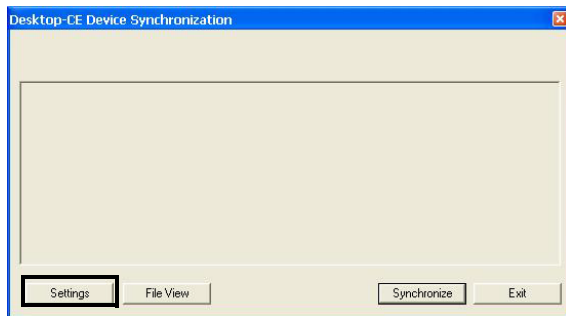
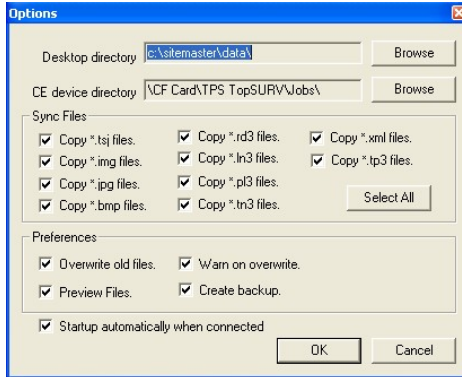
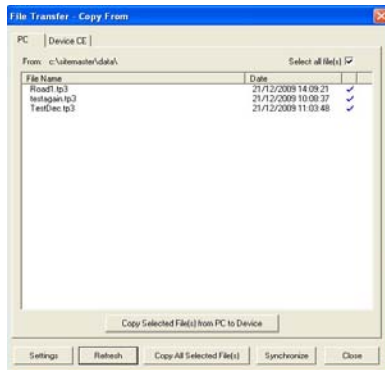

Figure 5-35. Desktop Device Synchronization Utility Menu
Figure 5-36. Options Dialog Box
Figure 5-39. File Transfer – Copy From Dialog Box
1. Click **File ► Synchronization Utility** on the File menu. The *Desktop-CE Device Synchronization* dialog box displays (Figure 5-35).
1. Press **Settings** on the *Desktop-CE Device Synchronization* dialog box (Figure 5-35 on page 5-31). The *Options* dialog box displays (Figure 5-36).
- CE device directory – press the **Browse** button to specify the directory for synchronization on your mobile device (Figure 5-35).
You can also press **Settings** on the *File Transfer - Copy From* dialog box (Figure 5-39 on page 5-35) to display the *Options* dialog box.
- Preferences – starts up automatically when connected. When toggled on, if a mobile device connection is detected, the synchronization utility will start up and display the *file transfer – Copy From* dialog box (Figure 5-39 on page 5-35):
- **OK** – saves and returns to the *Options* dialog box (Figure 5-39 on page 5-35).
1. Press the **File View** button on the *Desktop-CE Device Synchronization* dialog box (Figure 5-35 on page 5-31). The *File Transfer - Copy From* dialog box appears (Figure 5-39).
2. On the *File Transfer – Copy From* dialog box (Figure 5-39), place a check mark next to the file(s) you want to transfer. The same procedure can be followed for both transferring data to a computer, downloading files, or uploading files to a field controller. Transferring specific files can be used in lieu of synchronization in cases where synchronization is not appropriate.
3. To transfer all files, check mark the *Select all file(s)* box in the upper right-hand corner (Figure 5-39).